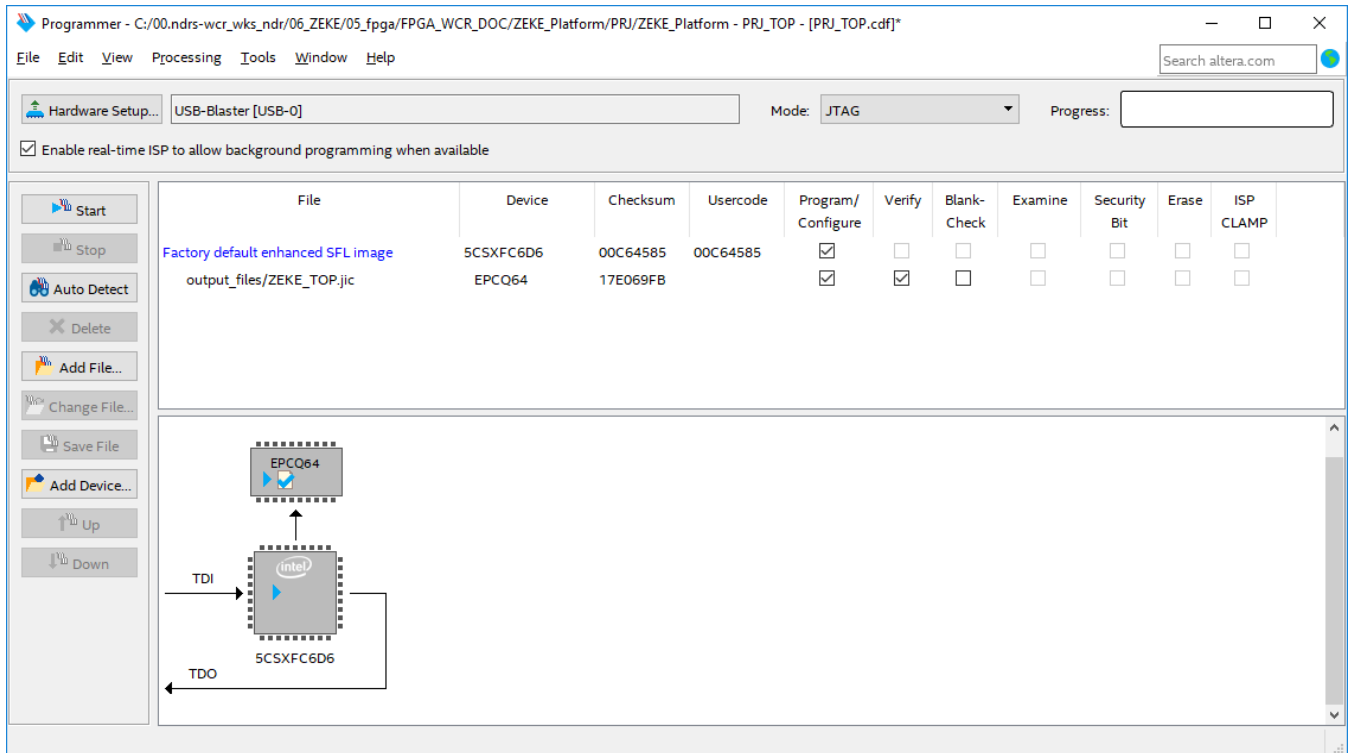

Figure 52 : Program the ZEKE board
3. Add JIC file to the programmer. Check the box in Program/Configure column as shown in the Figure 52.